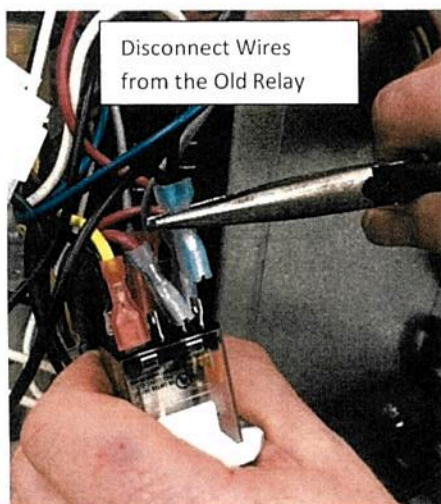
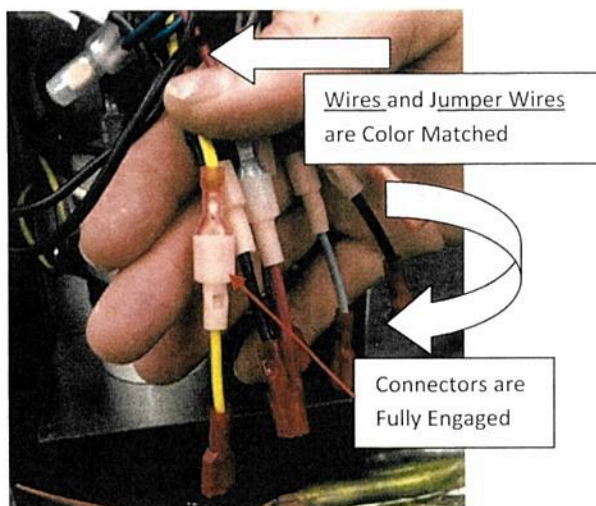

Figure 12a
Figure 12b
Step 12 – Carefully disconnect all the wires from the old relay by using needle nose pliers (Figure 12a) and connect to the insulated male end of the jumper wires provided from the kit (2 black, 2 gray, 1 red and 1 yellow). Make sure the color between the wires and jumper wires matches and each connection is fully engaged (Figure 12b) before moving to the next step.